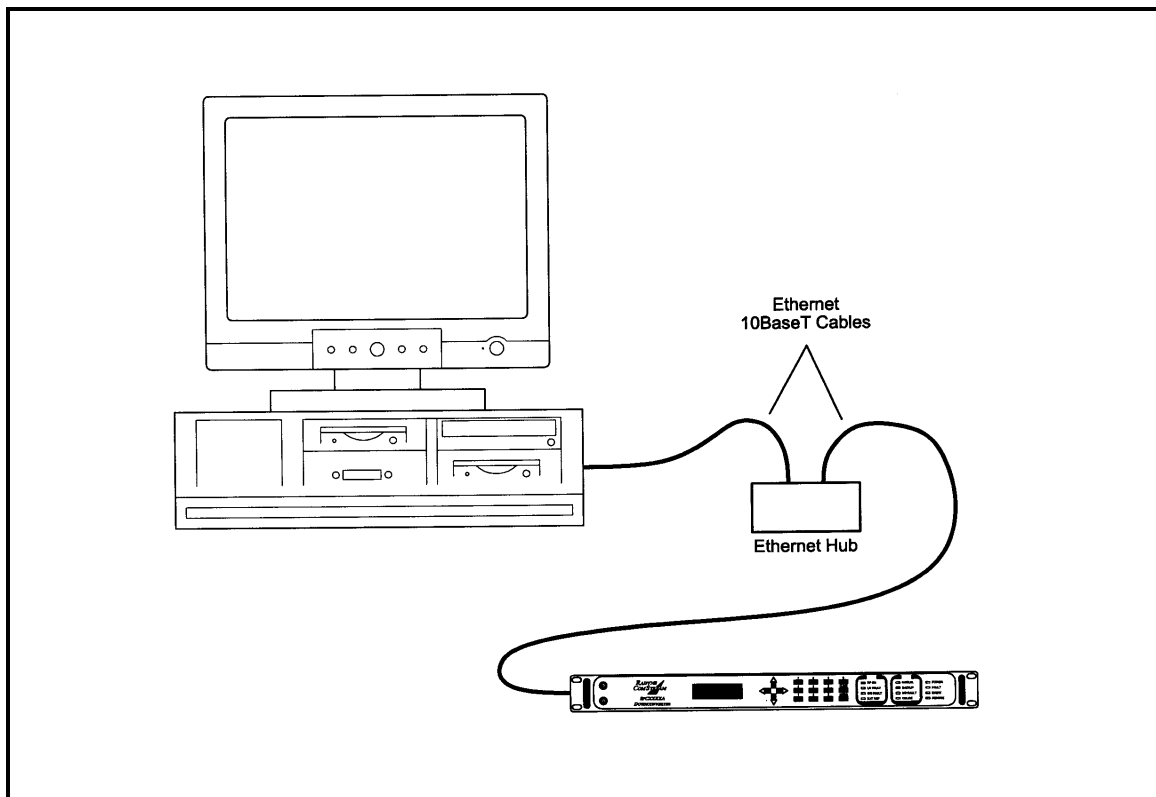

Figure 4-3. Ethernet Connection
1. Connect the computer to the Upconverter Ethernet port (J9) using the RJ-45 to RJ-45 10 BaseT Cables via a hub as shown in Figure 4-3.